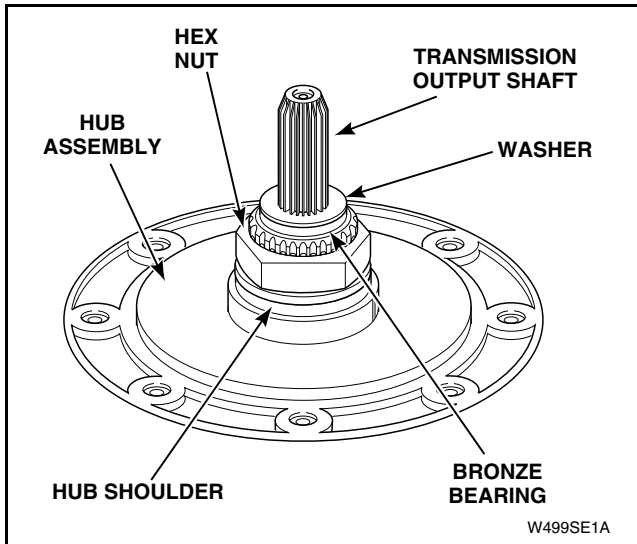

Figure 33
- (1) Placing a flat bladed screwdriver between bottom edge of seal and hub.
- (2) Using washtub bolts as a pry area, pop off lower seal bead.
- (3) Grasping bottom of seal pull straight up freeing upper seal bead.
- m. Thoroughly clean all foreign material from seal mounting area of hub assembly, bronze bearing and washer. Refer to *Figure 33*.